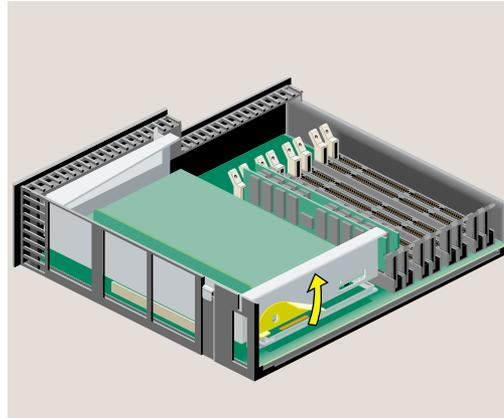

Figure 2-20 Releasing the PCI Tray
2. Release the PCI tray by pushing up the lever on the side (Figure 2-20). The tray pops up.